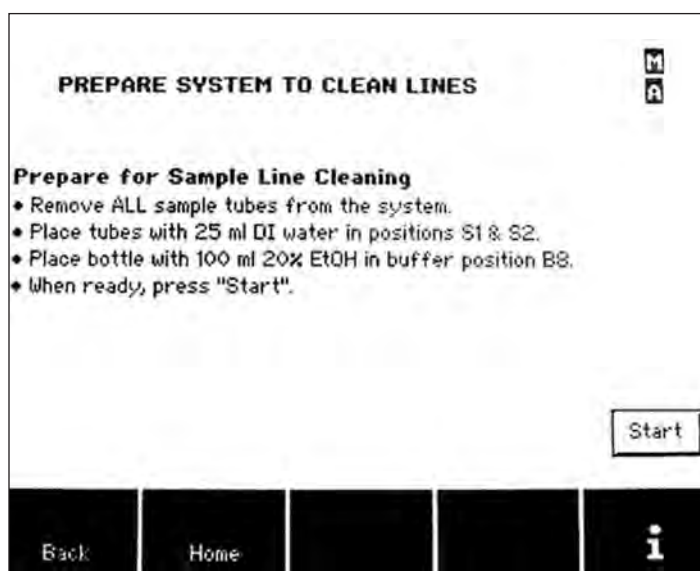

Fig. 9.8. Prepare system to clean sample lines screen.
4. Follow the directions displayed on the screen (Figure 9.8).